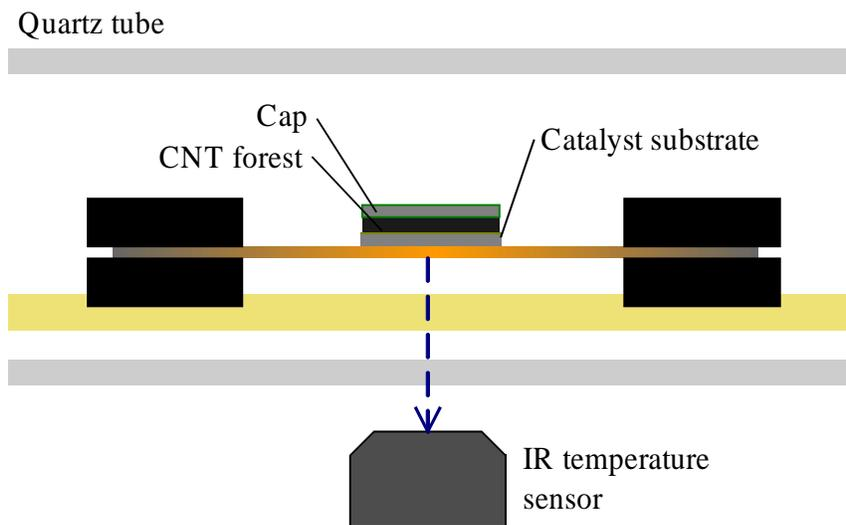

Figure 2. Heated platform and growth substrate configuration.
4. Place a cap substrate on top of the catalyst substrate. The cap substrate should be the same size as the catalyst substrate, and ideally the non-polished side of the cap should contact the catalyst surface. The cap substrate acts to thermally-shield the catalyst from radiative losses, and to moderate flow of high-activity hydrocarbons to the catalyst. The configuration is shown in Fig. 2.